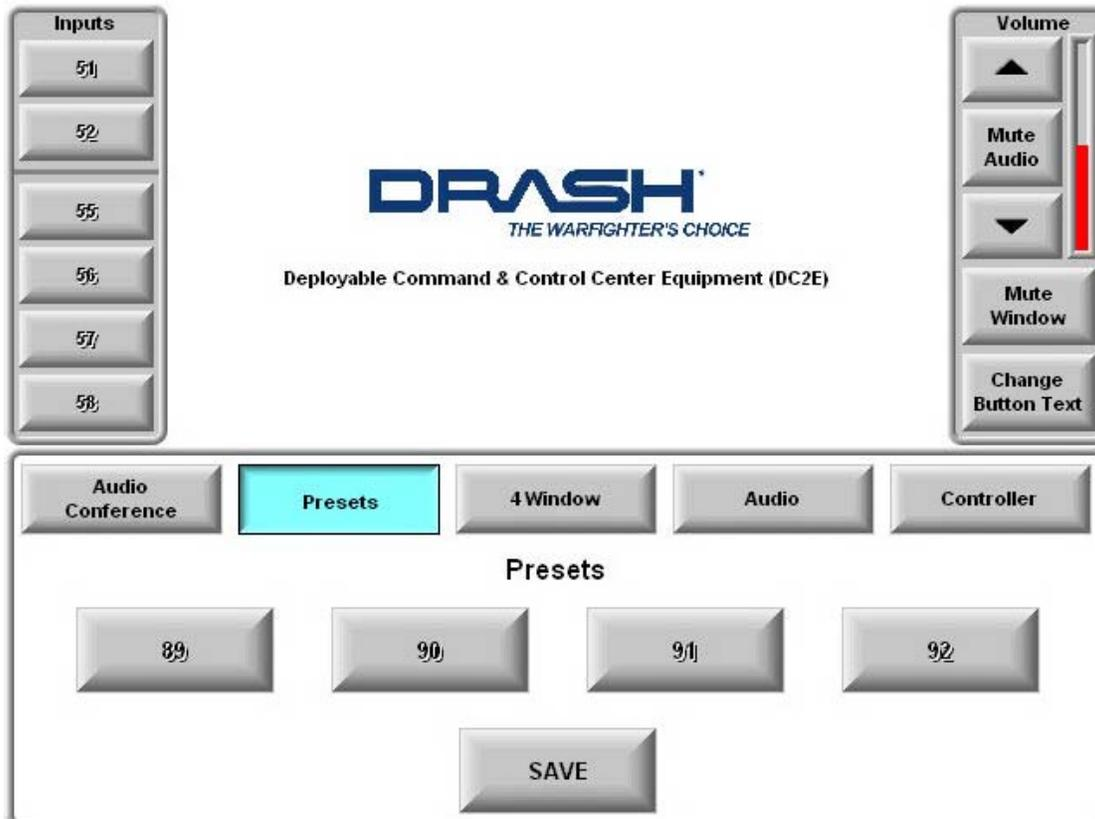

Figure 6. Preset Screen.
3. The Main Display page will change to show four Preset control buttons shown in Figure 6.